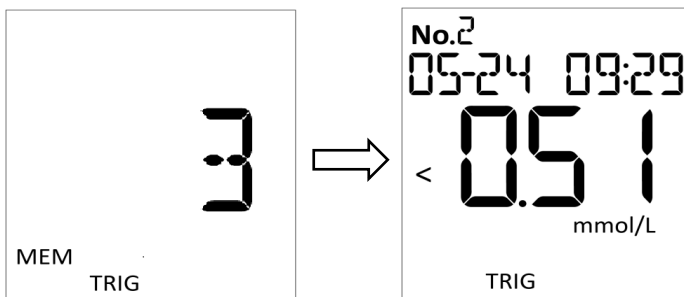

Fig 5.48
- TRIG value query interface (Ref Fig 5.48)